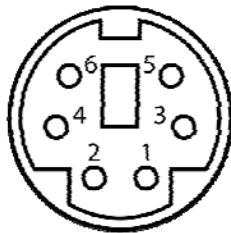

Figure 3-27: PS/2 Pinout and Configuration
- CN Pinouts:** See **Table 3-28, Figure 3-27**